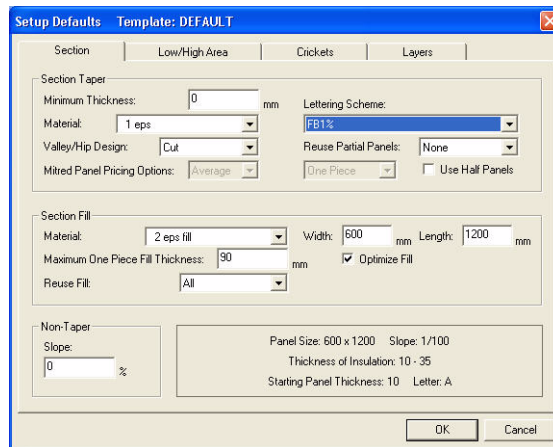

Figure 1–2 The Section tab of the Setup Defaults dialogue box.
4. Edit the options in each tab of the dialogue box so that they match the dialogue box illustrated in Figure 1–2, Figure 1–3, Figure 1–4, and Figure 1–5.